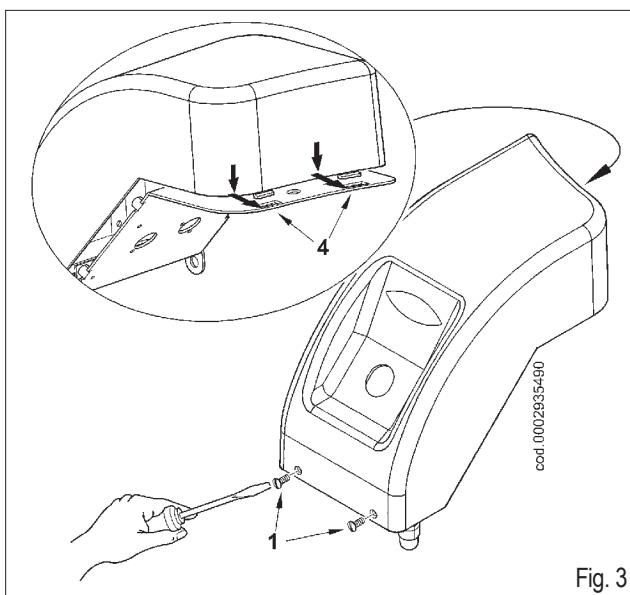

Fig. 3
- Re-close the lid taking care to position the two hooks (4) correctly in their respective housing (fig. 3).